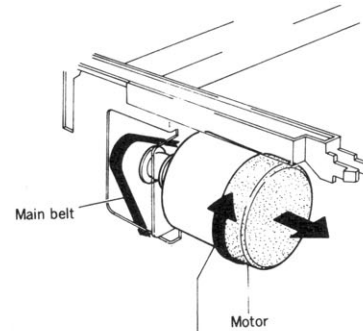

Fig. 37
- 2) Remove the main belt, rotate the motor in the direction of the arrow, and pull toward you to remove. (Refer to Fig. 37)